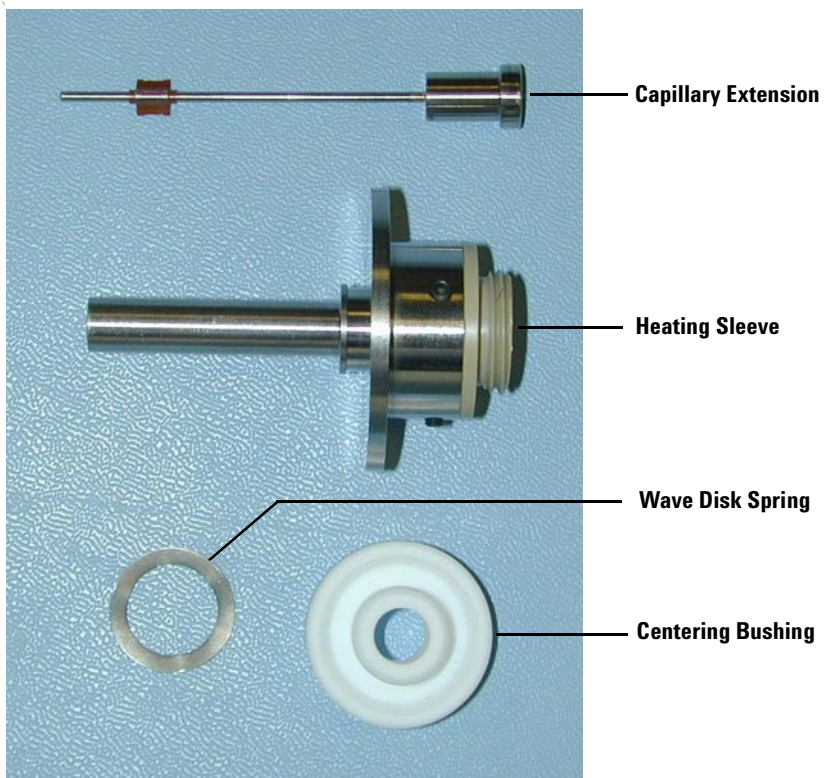

Figure 4 Capillary Extension components
- Capillary Extension - Figure 4.
- Heating Sleeve - Figure 4.
- Centering Bushing - Figure 4.
- Wave Disk Spring - Figure 4.